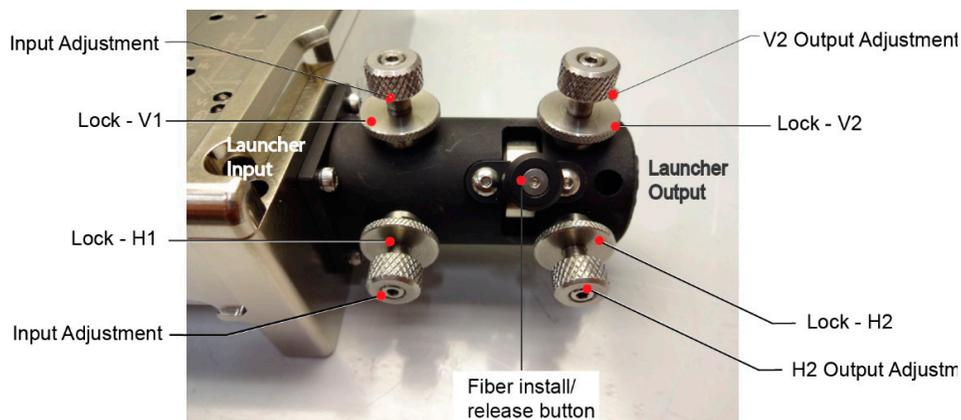
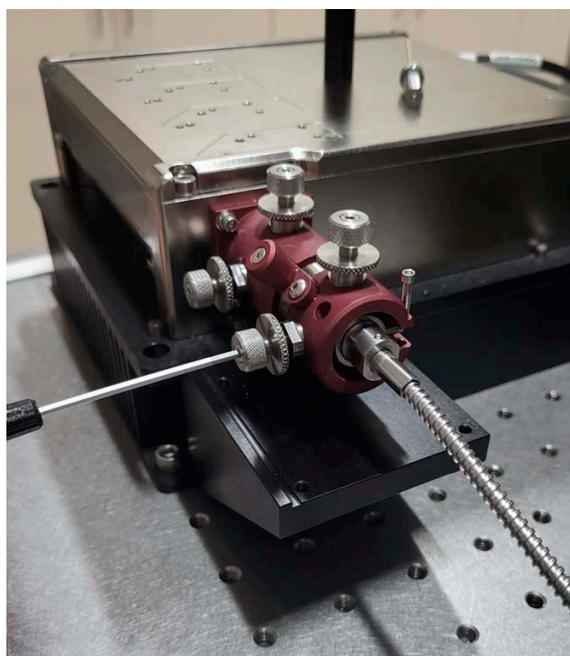

Figure 8-20. Adjustment Controls for Input/Output
Figure 8-22. Carefully Rotate Adjustment Knob
5. Rotate all four of the lock mechanisms counter-clockwise to unlock the adjustment knobs. Refer to Figure 8-20.
- a.) Use the knobs to move the fiber launcher in horizontal (bottom H1 & H2) direction to get the maximized laser output. Refer to reference Figure 8-20. Rotate each knob slightly in the same direction and observe the power level in the measurement software. Refer Figure 8-22. If the level decreases, rotate the same
- b.) Use the knobs to move the fiber launcher in vertical (top V1 & V2) direction to get the maximized output. Refer to reference Figure 8-20. Rotate each knob slightly in the same direction and observe the power level in the measurement software. If the level decreases, rotate the other direction slightly. Alternate between knobs and 'walk' the beam to the **highest/maximum** power level.